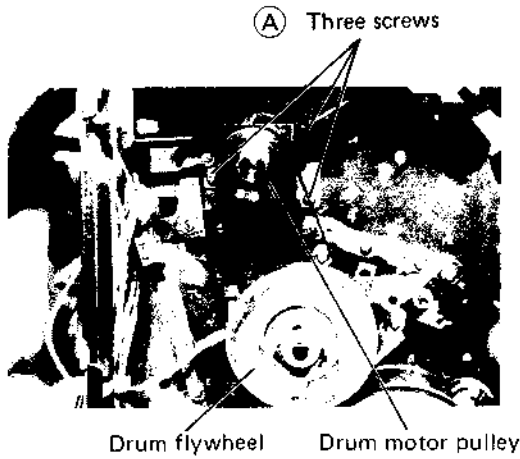

Fig. 4-39
1. The drum motor is installed on the rear of the chassis. Take out 3 screws (A) (Fig. 4-39) and remove the motor together with the pulley.